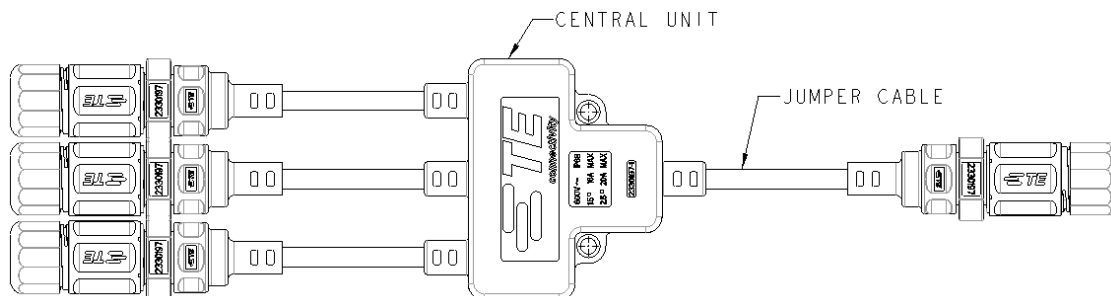

Figure 1
b) Pull test for the Jumper cable (refer Figure 1). Central unit and End splice must be clamped.